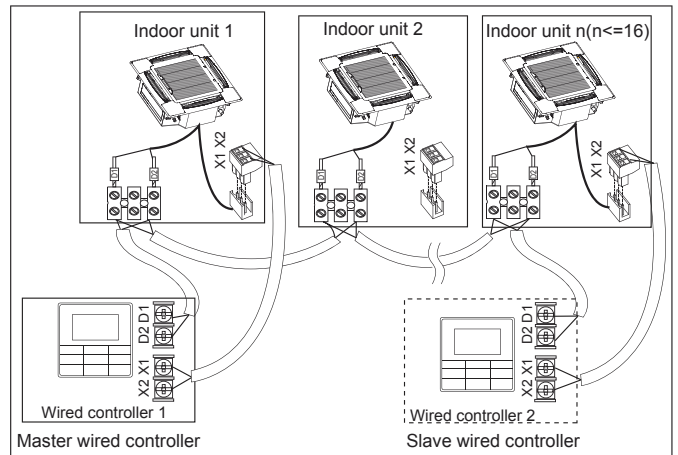

Figure 6.8
- ♦ Use 1 wired controller to control multiple indoor units or 2 wired controllers (one master and one slave controller) to control multiple indoor units (see Figure 6.8);